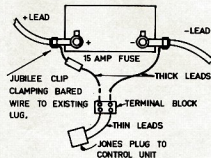

FIG 2 BATTERY CONNECTIONS
D.C. These are approximately 10-12 feet long. The main D.C. cables from the battery runs to the boot of the car via the control unit. One is attached to the negative terminal of the battery by means of a "Jubilee" clip around the lug and the other to a 15 Amp "Slydlok" fuse attached to the positive lug by similar means. See Fig. 2.
The cables are terminated at the control unit by four Pin Jones plugs. Since the cables must be 50 amp rating it is difficult to connect them into the Jones plugs so that a two pole connection block is used to reduce the 50 amp wires down to ones of smaller cross-section so as to fit into the plug. See Fig. 2.